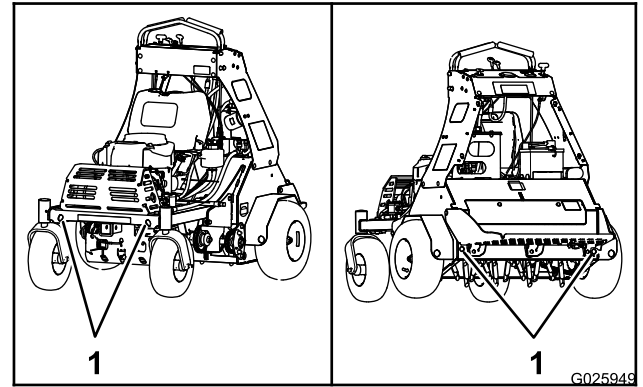

Figure 27
7. Use the tie-down points on the machine to securely bind the machine to the trailer or truck with straps, chains, cable, or ropes (Figure 27).